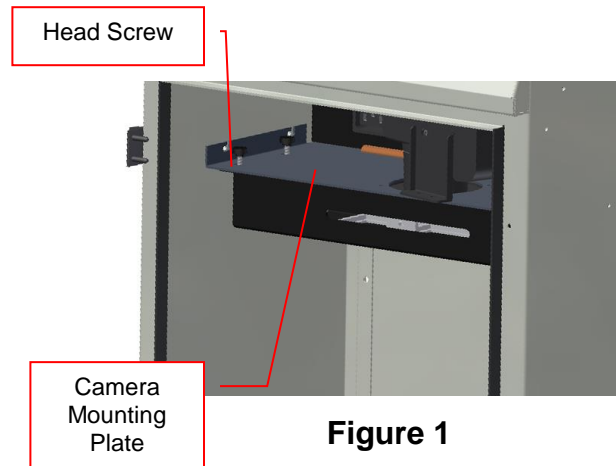

Figure 1
1. Unscrew the four plastic head screws (Fig. 1) that hold the filter tray to the camera mounting plate.
3. Reattach the filter tray to the camera mounting plate with the four plastic head screws (Fig. 1).
2. Run the cord behind the camera mounting plate (shown in Fig. 1) and plug into the lamp outlet.